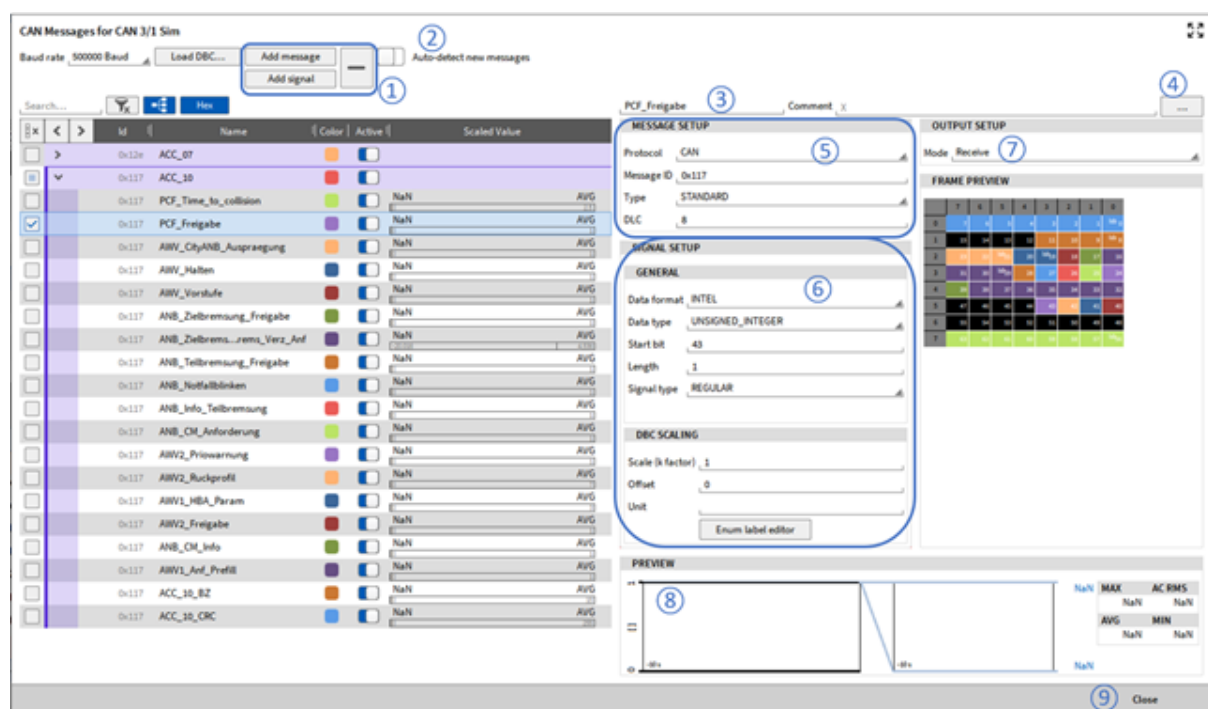

Fig. 7.204: CAN editor overview
- Manually add or delete CAN messages and signals (see ① in Fig. 7.204).
- Scan for CAN messages, which will automatically be created with their ID and DLC. After the scan, a name can be given and signals can be created (see ② in Fig. 7.204).
- Rename the currently selected CAN message and signal (see ③ in Fig. 7.204).
- Add comments to messages and signals (see ④ in Fig. 7.204).
- Edit CAN messages and access the same settings as described in section *CAN message setup* (see ⑤ in Fig. 7.204). With the enum label editor a text label can be defined for a specific, unique signal value which is then shown in the digital instrument (see also *Enum scaling*).
- Edit CAN signals and access the same settings as described in *CAN signal setup* (see ⑥ in Fig. 7.204).
- Set the CAN Message mode to Receive for acquiring data or transmit for outputting OXYGEN data over CAN (see ⑦ in Fig. 7.204).
- Providing a preview of the past 10 seconds of the signal to check if proper settings have been applied to the signal (see ⑧ in Fig. 7.204).
When finished you can exit the CAN editor again by pressing the Close button (see ⑨ in Fig. 7.204).